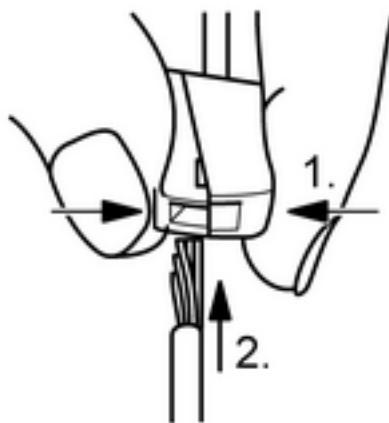

Figure 6: Connection of the fine-wire cable
- Push the terminal together on the side with the square opening and connect a fine-wire cable (Figure 6).